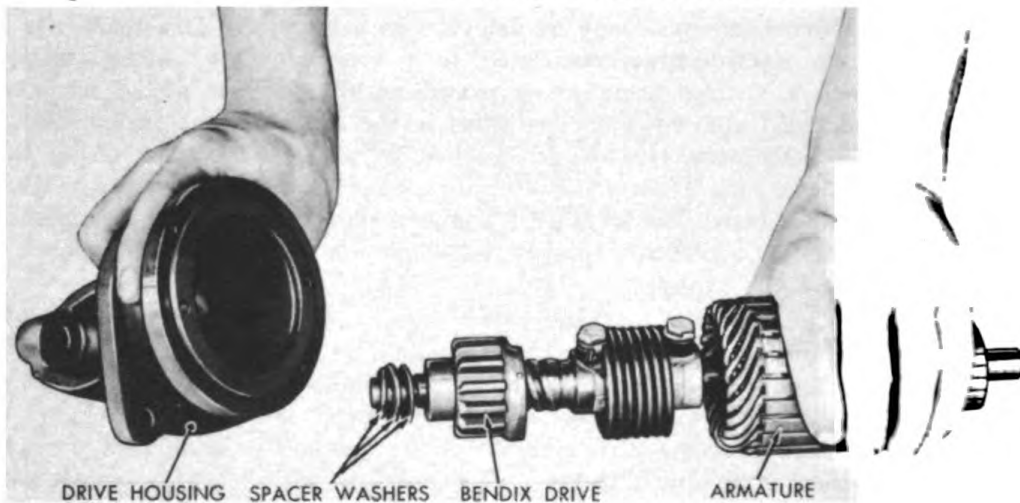

Figure 241. Installing Armature Shaft and Bending Assembly into Drive Housing.
- c. To attach the drive housing with the drive, place the drive shaft with the gear and Bendix drive in the drive housing as shown in figure 241, and attach the housing to the field frame. Make sure that the dowel pins line up with the dowel holes.